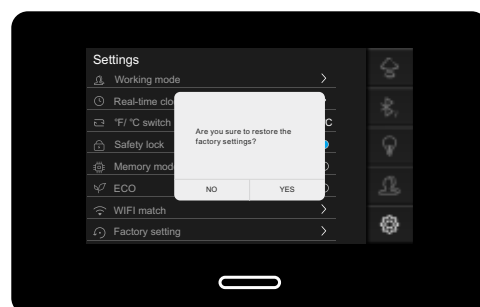

Figure 12
Press  on the right of . A small window jumps out. Press "YES" to restore the system to factory settings. Press "NO" will stop restoring. (Figure 12)
**Notice:** After all the setting is done. Press  on the right of the screen to switch back to the steam interface. (Figure 12)